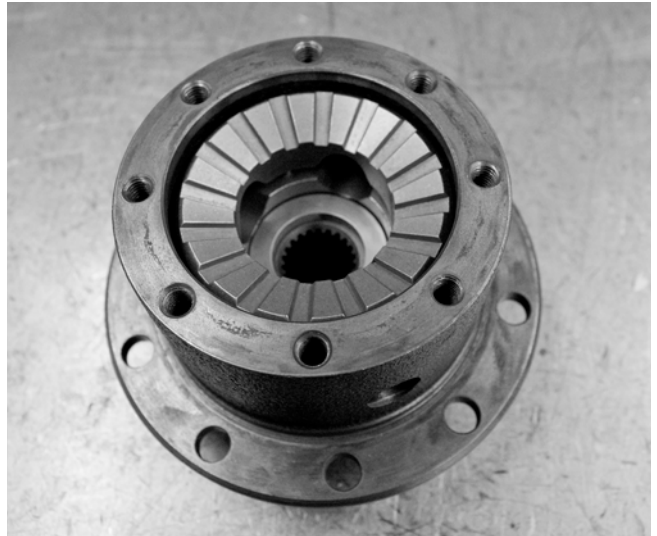

Figure 10
- Place first spacer on top of the bottom side gear. *Figure 10*